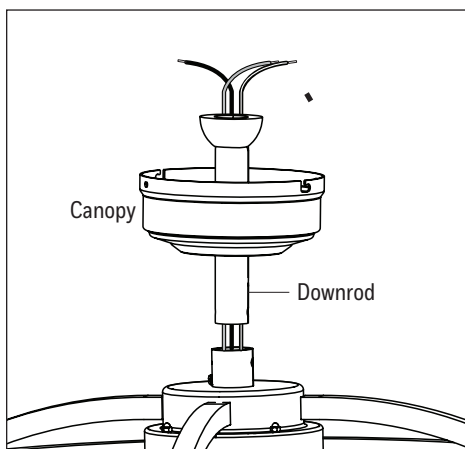

Figure 3.1
1. Insert the downrod through the canopy. Then feed the wires from the motor assembly through the downrod (Figure 3.1).